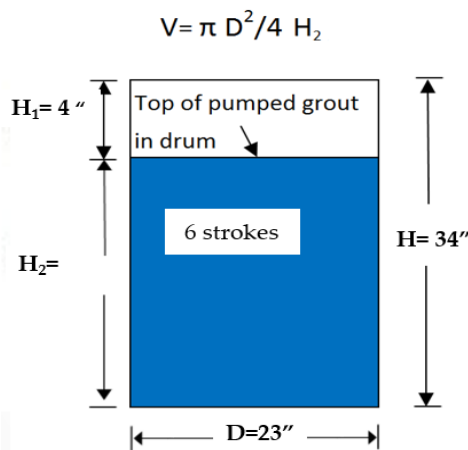

Fig. 1
EXAMPLE: Refer to Fig 1. Before the test, the internal diameter of the container D was measured as 23 in. The total height H of the container was measured as 34 in. A total of six (6) full strokes were pumped during the test into the barrel. After these strokes, the free height H_1 was measured as 4 in.